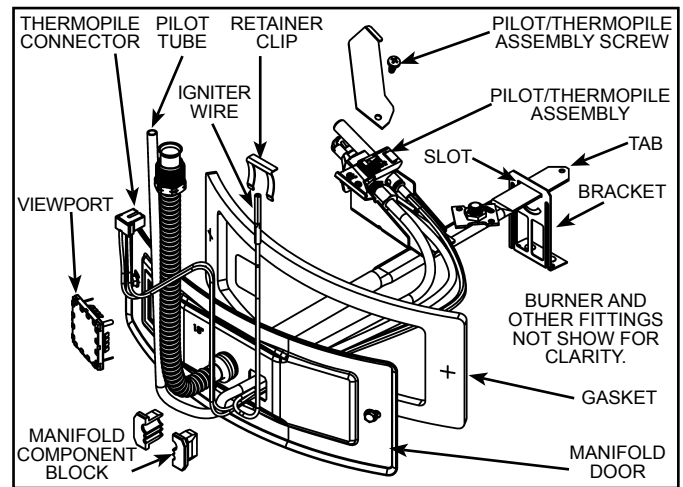
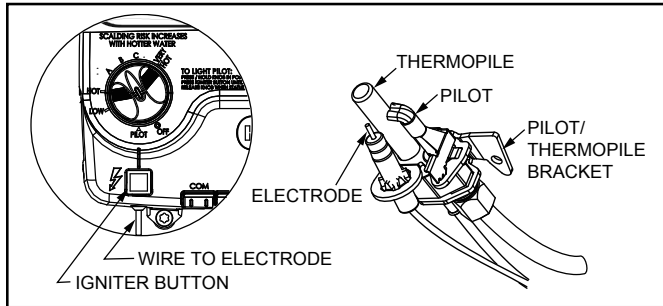

Figure 35
Figure 38
- Remove the screw securing the pilot/thermopile assembly to the pilot bracket and keep for reuse later (see Figure 35 & Figure 38).
- Lift the retainer clip straight up from the back of the manifold component block (using a flat-blade screwdriver), then remove the manifold component block from the manifold door (see Figure 35).
- Route the new pilot tube, igniter wire and thermopile wires through the opening in the manifold door (see Figure 35).
1. Check the door gasket for damage or imbedded debris prior to installation (see Figure 35).
2. Inspect the viewport for damage and replace as required (see Figure 35).
3. Insert the new manifold/burner assembly into the burner compartment, making sure that the tab of the manifold tube engages the slot of the bracket inside the combustion chamber (see Figure 35).
4. Inspect the door gasket and make sure there is no fiberglass insulation between the gasket and the combustion chamber (see Figure 35).
The piezoelectric igniter system consists of the igniter button, electrode, and wire. The pilot is ignited by an electric spark generated when the igniter button is pressed (see Figure 38).